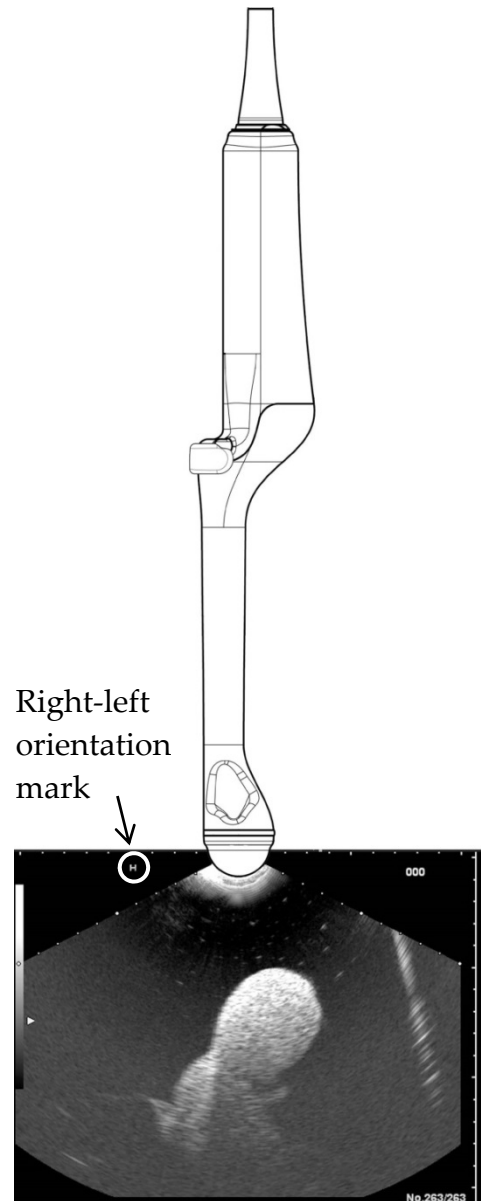

Fig. 2 Relationship between direction of the probe and Right-left Orientation Mark
- 3) Relationship between direction of the probe and the right-left orientation mark on the image is shown in Fig. 2.